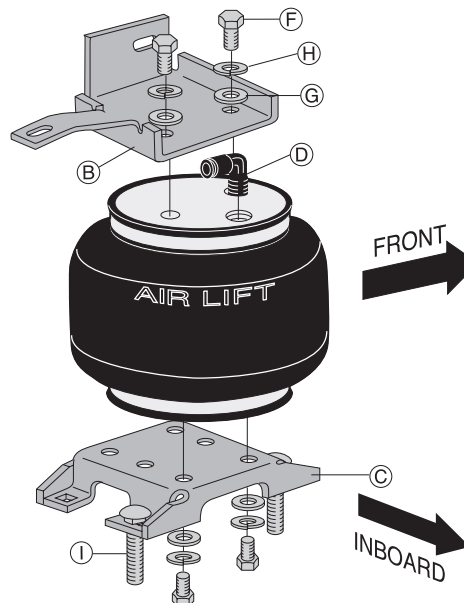

fig. 2
3. Insert two carriage bolts in the lower, inboard holes of the lower bracket before attaching the bellows (Fig. 2).